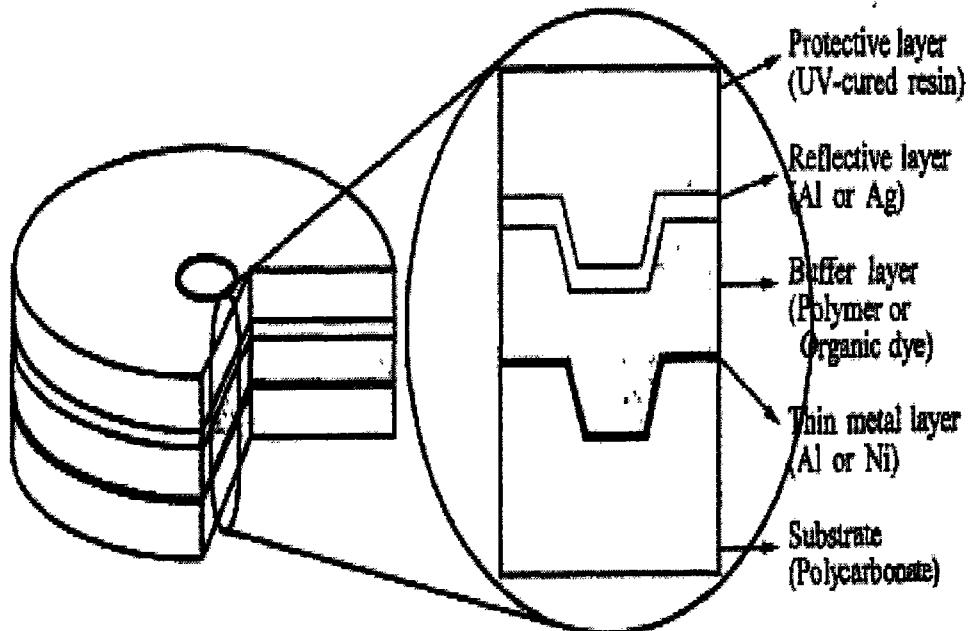
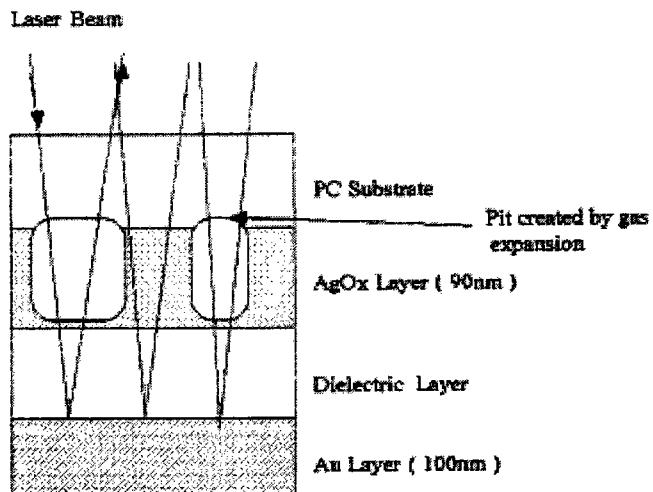

Figure 2. [Rajah 2]
Figure 3. [Rajah 3]
5. (a) Figure 2 and figure 3 shows 2 types of Compact Discs-Read, show the function of each layer in the CD-R in both figures.